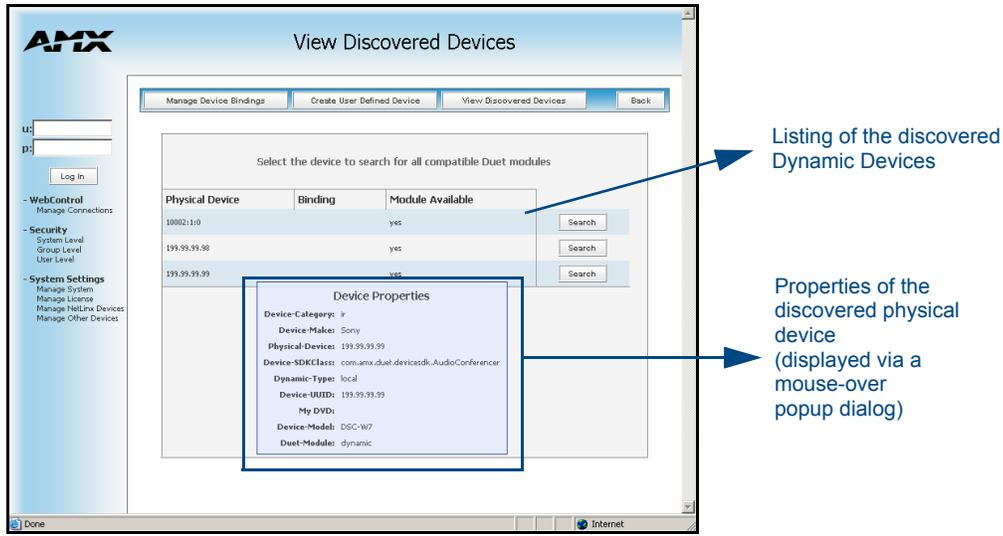

FIG. 70 View Discovered Devices page
This page (FIG. 70) provides a listing with all of the dynamic devices that have been discovered in the system.
- If the device is a DDD enabled Serial or IP device, then the device will be automatically discovered and show up in the Master's View Discovered Devices UI page under Manage Other Devices. (FIG. 70 on page 88).